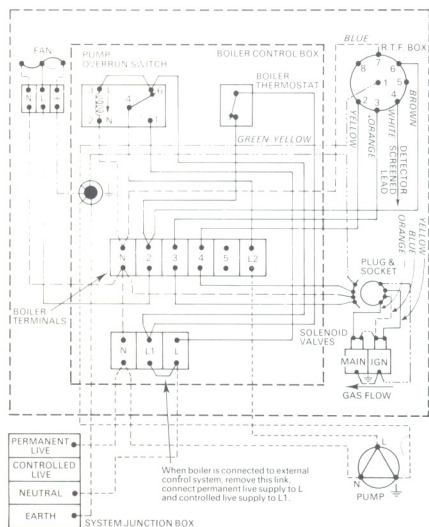

Fig. 2a Internal wiring and connections to Aga hi-light P50S and P70S.
All site wiring must conform to current I.E.E. regulations for the electrical equipment of buildings, local Gas Region regulations, Local Authority requirements and, in Scotland, the electrical provision of Building Regulations applicable in Scotland. A 240v 50Hz AC supply, adequately earthed is near to the boiler, by means of a switched plug and socket fused 3 amp. Minimum cross sectional area of incoming cable, 0.75mm² (e.g. 24/0.2 mm 3 core PVC insulated cable). All site wiring must be clear of sharp edges and hot surfaces and be secured. The control box of the boiler, has connections for wiring to the electric supply and an external control system and it is recommended that connection is made to a system junction box as shown in figs. 2a & 2b. The boilers are suitable for use with all types of control system but it is recommended that controls are selected that isolate the boiler electrically at times of no demand.
4. Remove control box cover and make electrical connections to the control box from mains and system controls—see wiring diagrams (figs. 2a and 2 b).